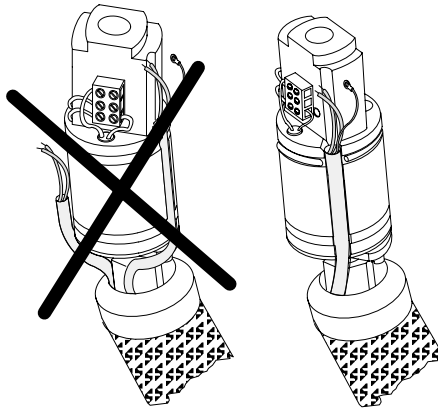

Figure 3 Proper Wire Alignment
**CAUTION:** Align each set of electrical wires exiting the hose with a groove on the pivot sleeve. Failure to do so can damage the wires, resulting in an electrical short. See Figure 3.